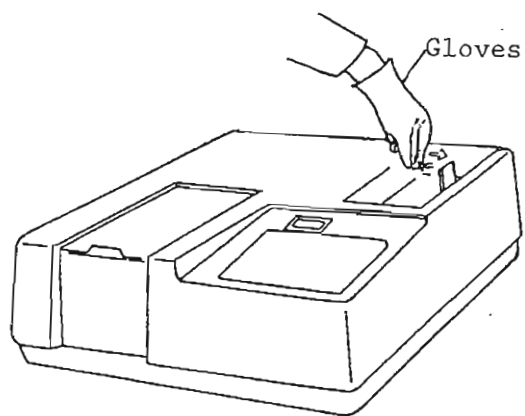

Fig. 2 Mounting WI lamp.
- 3) Insert a new WI lamp into the connector. (Fig. 2)